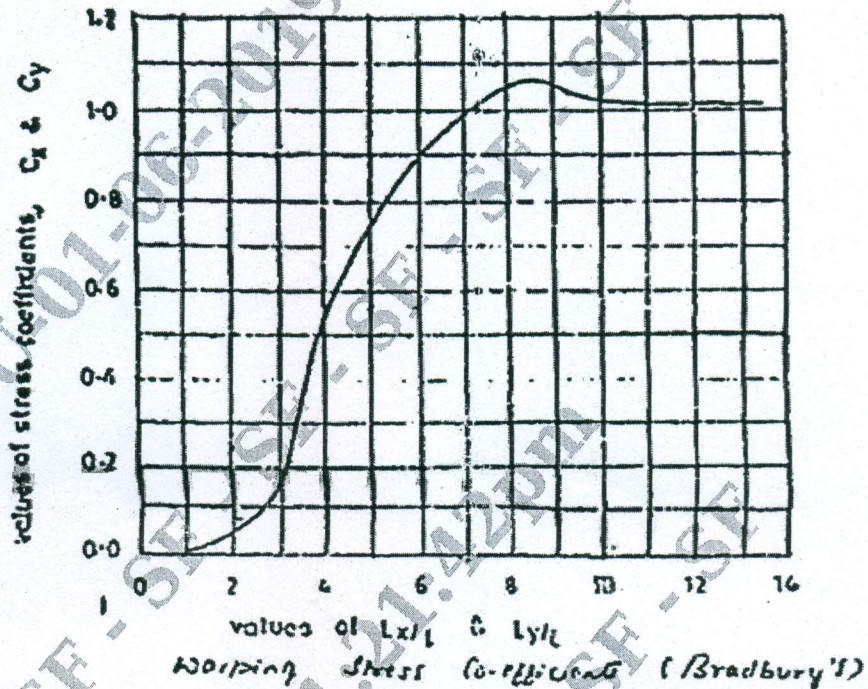

Fig.Q5(b)
- b. Calculate the warping stresses at interior, edge and corner regions in a 25 cm thick concrete pavement with transverse joints at 11m interval and longitudinal joints at 3.6m intervals. The modulus of subgrade reaction is  $6.9 \text{ kg/cm}^3$ . Assume temperature differential for day conditions to be  $0.6^\circ\text{C}$  per cm slab thickness. Assume radius of loaded area as 15cm for computing warping stress at corner. [Use Fig.Q5(b)]. Assume  $e = 10 \times 10^{-6}$  per  $^\circ\text{C}$ ,  $E = 3 \times 10^5 \text{ kg/cm}^3$ ,  $\mu = 0.15$ .